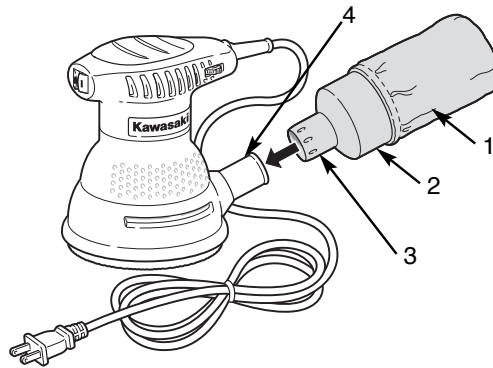

FIGURE 2.
1. Slide the dust bag (1) over the large end of the adapter (2) (see Figure 2).
2. Slide the small end of the adapter (3) onto the dust port(4).